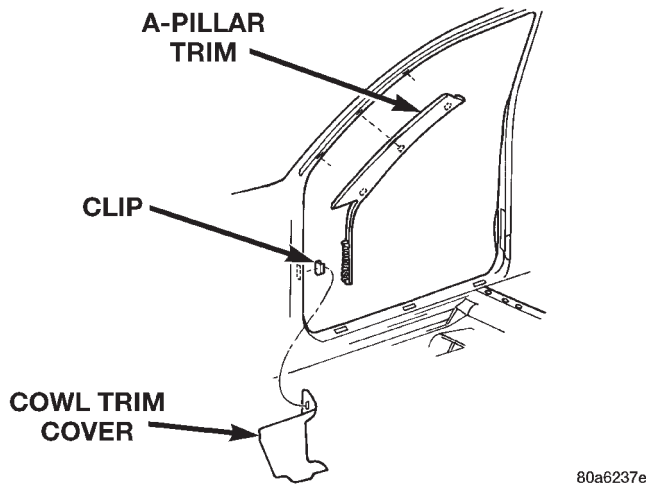

Fig. 80 A-Pillar Trim
- (1) Remove A-pillar grab handle, if equipped.
- (2) Grasp A-pillar trim and pull outward to disengage clips attaching A-pillar trim to A-pillar (Fig. 80).
- (3) Separate A-pillar trim from vehicle.